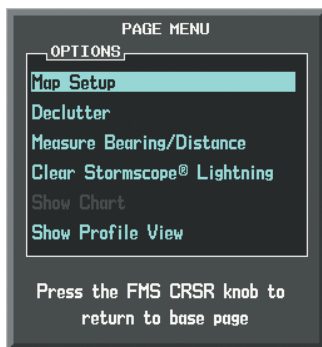

Figure 6-93 Navigation Map Page Menu
- 3) With Map Setup highlighted, press the **ENT** Key (Figure 6-93).